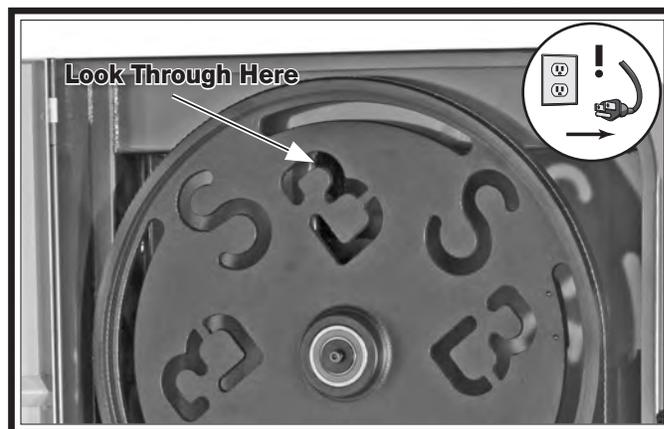

Figure 84. Location of blade tension adjustment assembly.
2. Open upper wheel cover and look through top of wheel (see Figure 84).